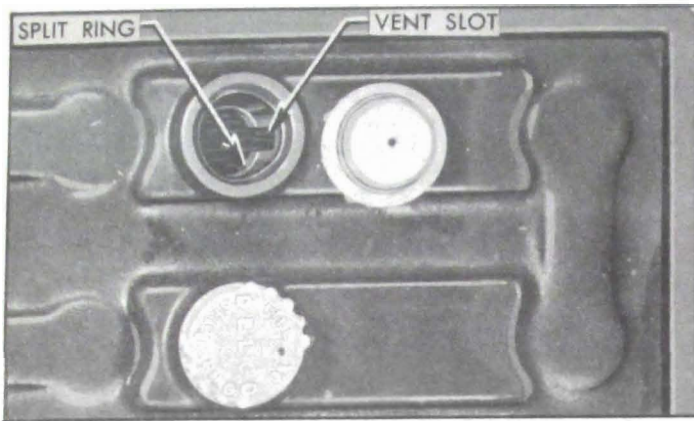

Figure 1-6—Battery Filler Well
11. **Battery.** Add distilled water to bring level to split ring at bottom of filler well. **WARNING:** Do not overfill. Clean top of battery; if wet with acid, neutralize with soda and wash clean. See figure 1-6.